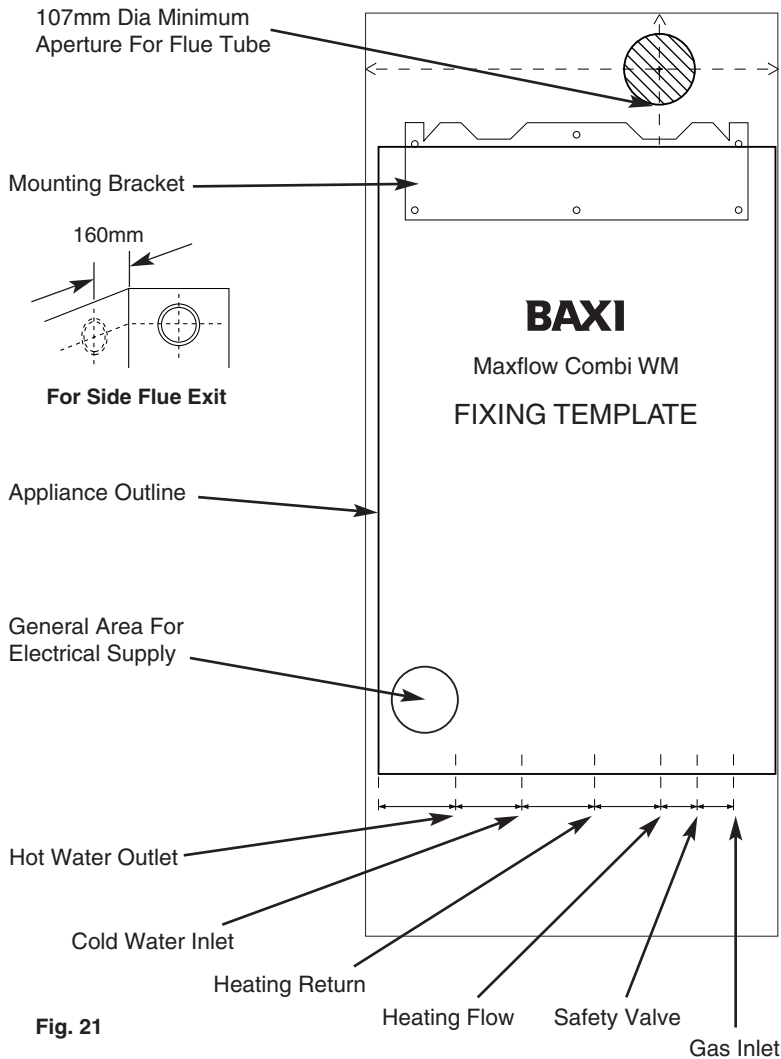

Fig. 21
1. Locate the wall template (Fig. 21) in the appliance packaging.